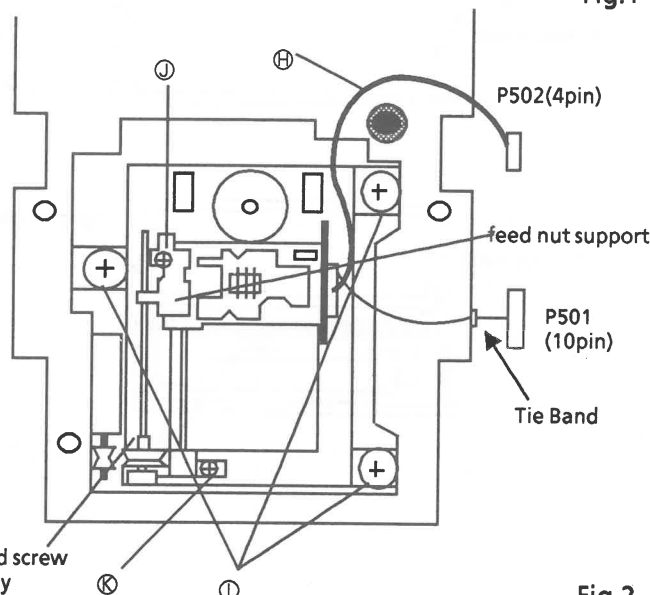

Fig.2
- 3) Remove the 2 screws ⑥ fastening the changer assembly.
- 4) Disconnect the connectors. (⑦⑧⑨⑩⑪)
- 5) Slide the changer assembly to arrow direction ①.
Wire ⑫ should be set as Fig.2.
4. Removing the turntable base (Fig.2)
- 3) Remove the 3 screws ①.
5. Exchanging the pickup (Fig.2)